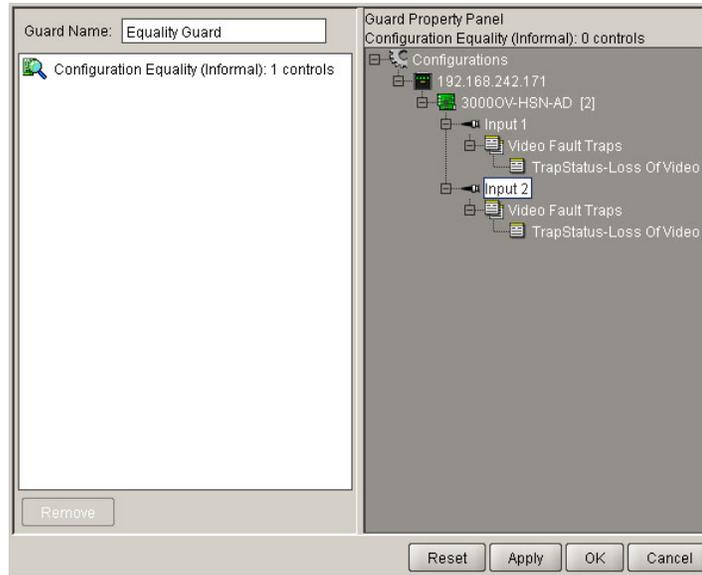

Figure 4-13: Multiple Control Parameters for Configuration Equality
4. Since the *Configuration Equality* guards work best with more than one control parameter, a second parameter can be added to the *Configuration Equality* component. Figure 4-13 displays how the component is composed of two MVP inputs matching the same parameter.